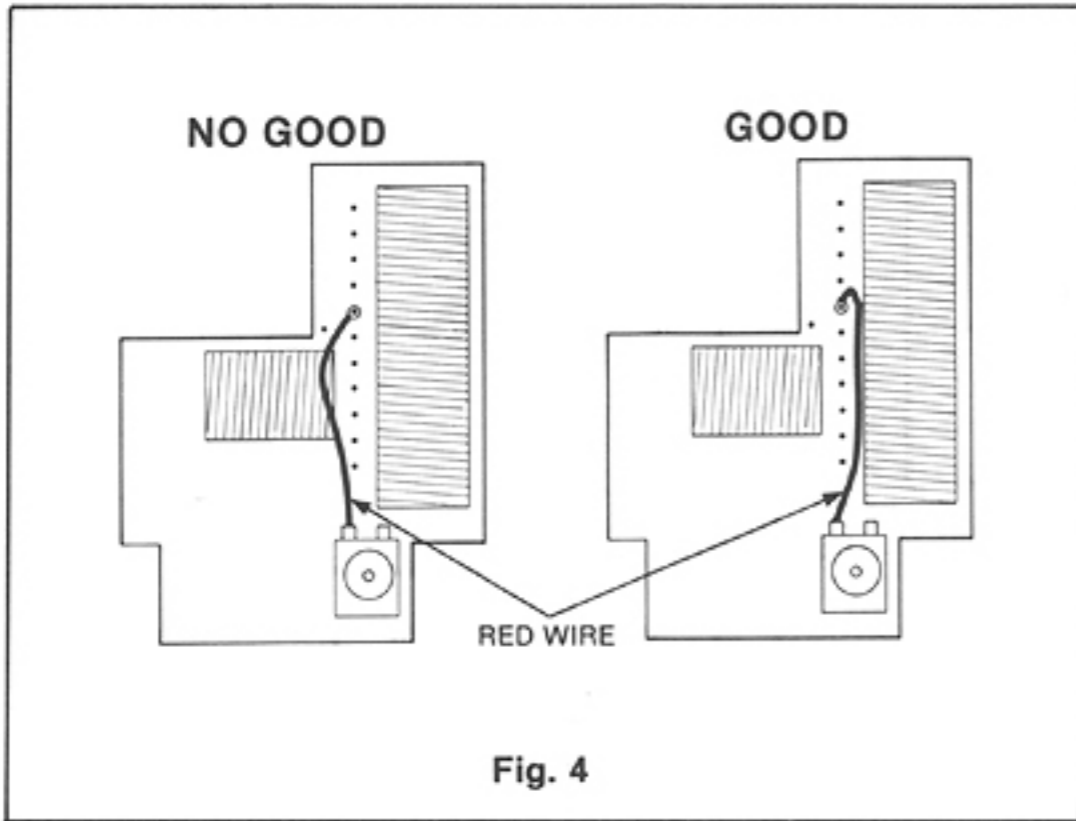
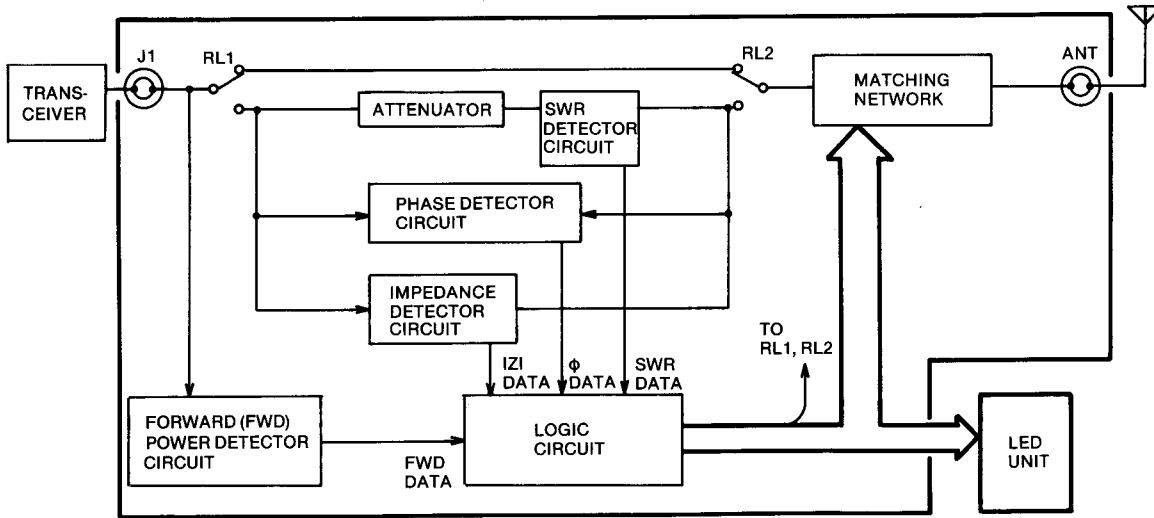

Fig. 4
Fig. 1
- (1) Connect the SWR meter between the IC-M700 and AT-120 as shown in Fig. 1.
- (2) Be sure the S1 PRESET SWITCH on the AT-120 is set in the [NORMAL] position.
- (3) Set the IC-M700 to your most used channel.
- (4) Push the TUNE SWITCH of the IC-M700 to tune the AT-120. Be sure the SWR reading is less than 1 : 2.0.
- (5) Make a note of which LED lights up on the AT-120.
- (6) Set S1 on the AT-120 to the [PRESET] position.
- (7) Set S2, S3 and S4 at the same location where the LED lights up.
- (1) Connect the SWR METER between IC-M700/F and AT-120E as shown in Fig. 1.
- (2) Set the GROUP SWITCH on the IC-M700/F to the [2182] position.
- (3) Remove the wire from J9 and tape the ends of the wire.
- (4) Unplug J2 and rotate C8 counterclockwise at least 3 full turns.
- (5) See the SWR meter and ground J11 below 5 seconds to transmit 10W of checking power.
(6) Adjust as follows to obtain a minimum SWR reading with a check transmission:
**CAUTION:** The location for connecting the red wire in step ③ below is shown in Fig. 4. Use of an improper location could result in fire risk.